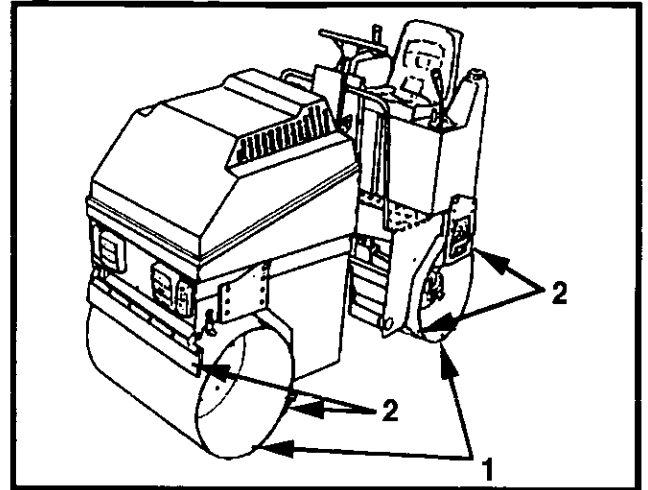

Figure 5-16 Drums and Drum Scrapers
1. Perform a visual inspection of the drums (1, Figure 5-16) and remove any material adhering to them.
2. Check the drum scrapers (2, Figure 5-16) to ensure they are not damaged. Replace any damaged drum scrapers that require attention.